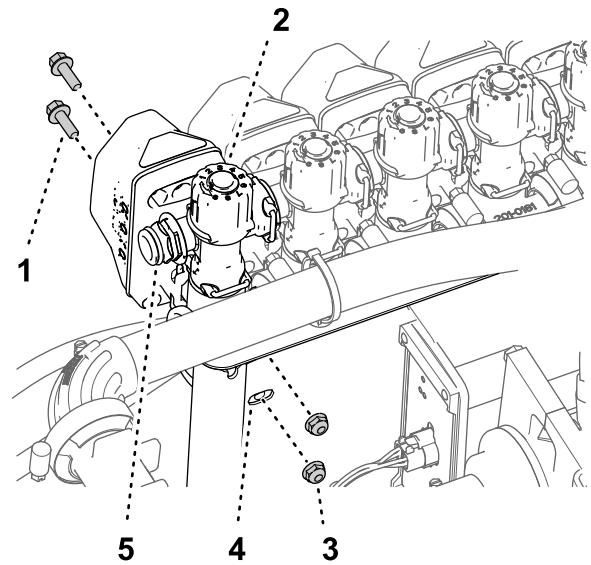
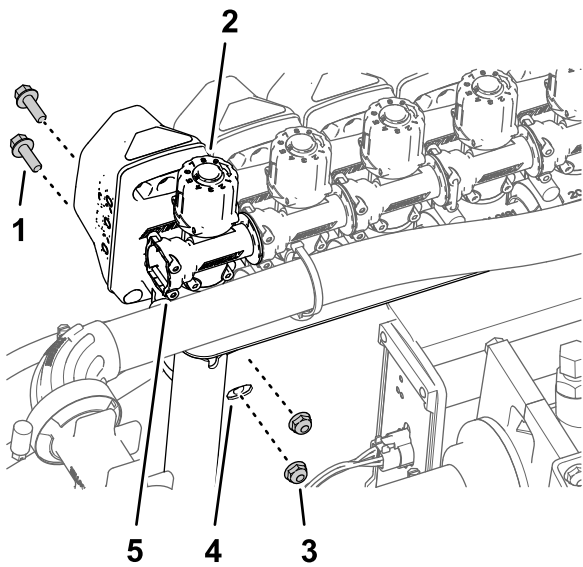

Figure 107
Figure 108
3. Assemble nozzle valve 10 to the valve mount (Figure 107 or Figure 108) the with the 2 flange-head bolt (1/4 x 3/4 inch) and 2 locknuts (1/4 inch) that you removed in step 2 of Removing the Section Valves from the Manifold Mount (page 36).